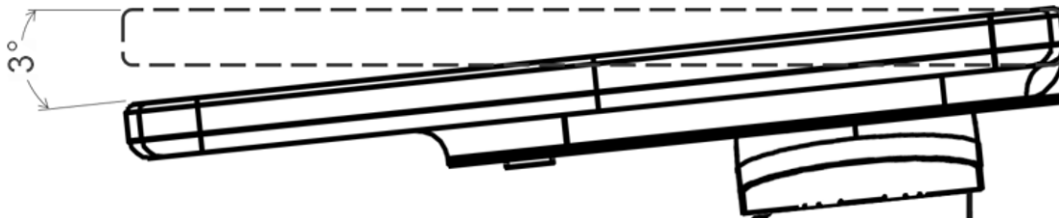

Figure 27: Tilting the ODU forward to 3-degrees
7. The stanchion is adjustable and allows for pivoting around the lower bolts. These bolts were installed first in step 5 when connecting to the mount and left loose enough to allow pivoting. The curved slot in the center of the stanchion on either side controls the angle of the stanchion, which can be locked in place using the proper bolts. The ODU requires 3-degrees of forward tilt where forward is the direction away from the bridge along the short side of the panels (shown in Figure 27). An inclinometer must be used to ensure the ODU is at the desired 3-degrees of forward tilt, after which all four bolts may be tightened to their respective torques.